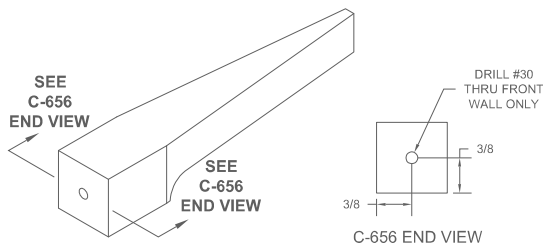

FIGURE 1:
Step 4: Drill a pilot hole in the end of the C-656 Canopy Handle as shown in Figure 1.